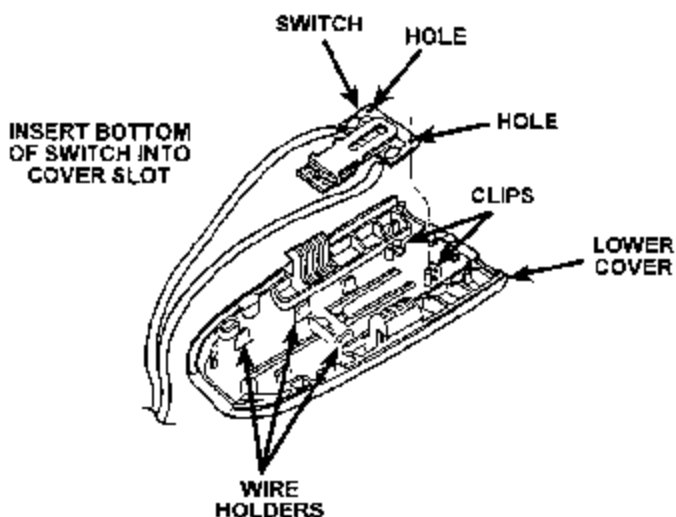

FIGURE 11
18. **Driver's Side Buckle Only (Laser/Talon); Both Sides (Stealth):** Install the original seat belt switch into the provided lower cover. Insert the bottom of the switch into the lower cover slot and then press the top of the switch into place under the two clips (Figure 11). Secure the switch wires in the lower cover wire holders.